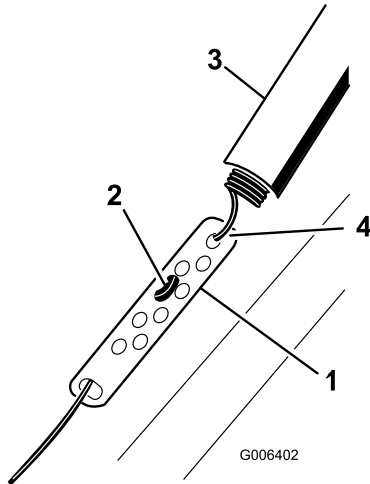

Figure 26
1. Slide up the spring cover and unhook the spring from the adjuster link (Figure 26).